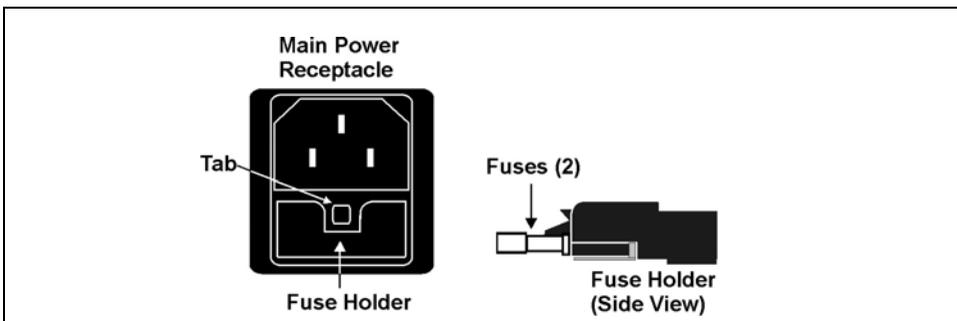

Figure 5-28. Main Power Fuse Holder
2. The fuse holder is part of the main power receptacle (see Figure 5-28) on the ICS-1500 rear panel. To remove the fuse holder, squeeze the tab on the top of the holder to release it and pull the holder straight out of its compartment.